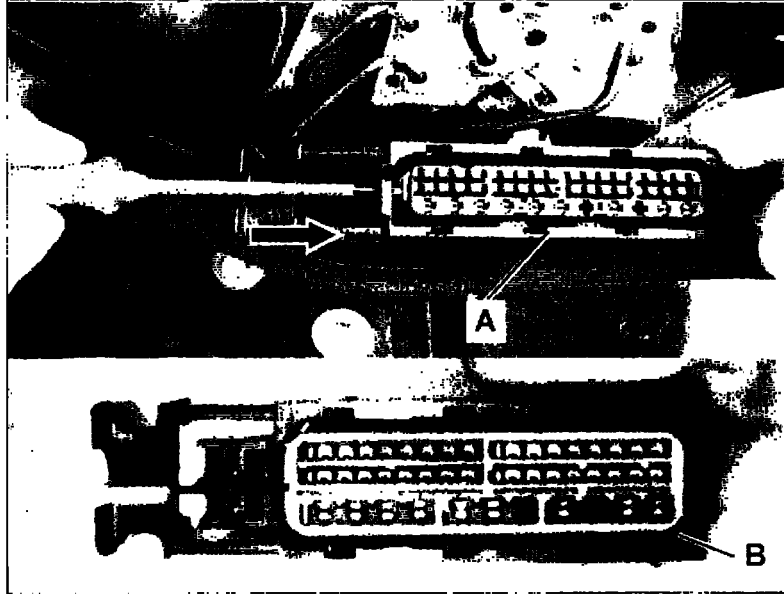

Figure 10
11. Close the (gray) secondary locks of the SBC connector housings (A, B, Figure 10):
- **Connector Type A** (Figure 10):
Slide the gray secondary lock in the direction indicated by the arrow (Figure 10), using a small screw driver until it locks into place.
- **Connector Type B** (Figure 10):